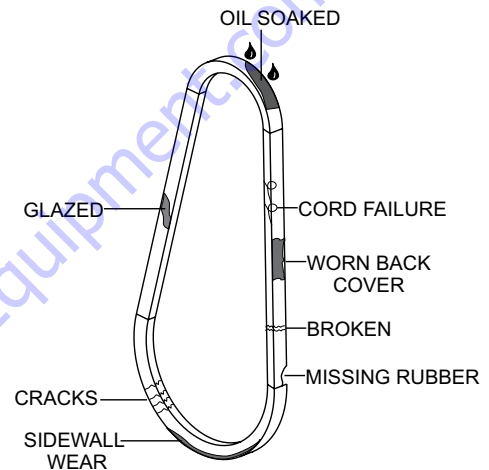

Figure 9. Drive Belt Inspection
Visually examine the V-belt (Figure 9) and determine if it is full of tiny cracks, frayed, has pieces of rubber missing, is peeling or otherwise damaged.
- Place the fuel valve lever (Figure 9) in the **OFF** position.